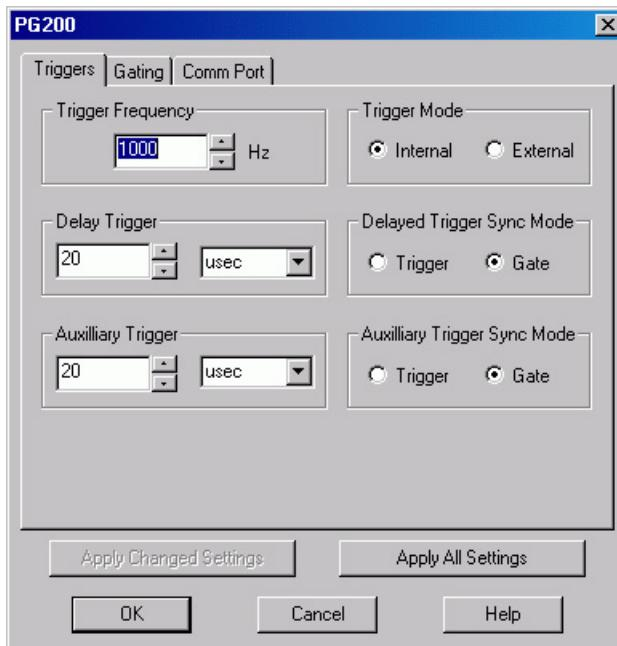

Figure 159. PG200 Triggers tab page
8. Click on the **Triggers** tab (Figure 159).